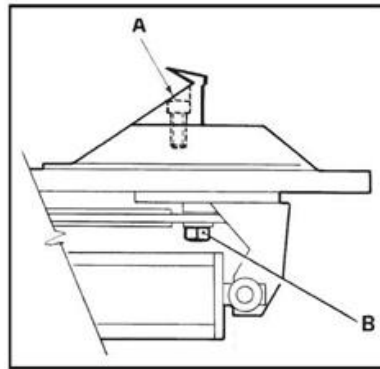

Fig. 5-2
- After the first 20 days of use, tighten the jaw fixing screws and those of the turntable slides (fig. 5-2).